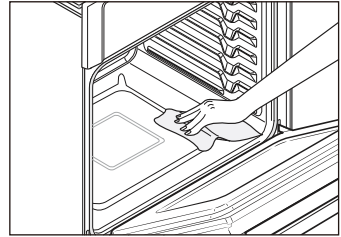

Fig.17
- Wipe up debris from the oven bottom. (Fig.17)